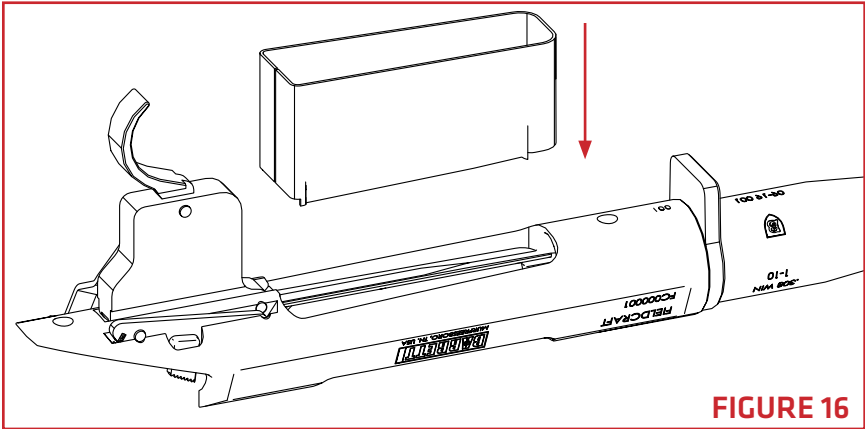

FIGURE 16
1. Insert the magazine body into the underside of the receiver. For proper function, the magazine body may only be inserted into the receiver in the orientation shown below (**FIGURE 16**).